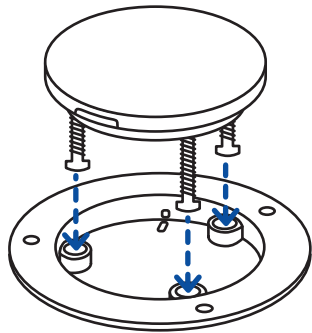
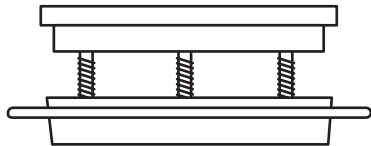

Figure 6b. The screw heads of the ChargeSpot should be placed in the holes of the mounting plate.
Figure 6c. ChargeSpot with mounting plate
- With the three (3) machine screws attached, place the ChargeSpot on top of the mounting plate. Ensure the screws attached to the charger are aligned with the corresponding counter bores on the mounting plate (Figure 6b). The resulting assembly should appear as in Figure 6c.